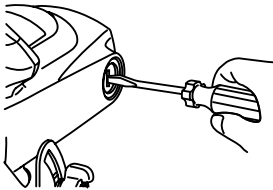
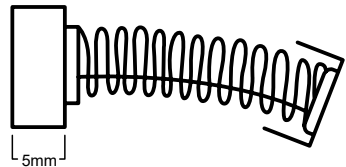

FIGURE 6.1
FIGURE 6.2
- To inspect, use a screwdriver to remove the brush holder caps when accessible (Figure 6.1). Replace them when worn out in a way that makes it impossible to operate the product or 5mm, as shown in Figure 6.2. Next, close the brush holder caps.